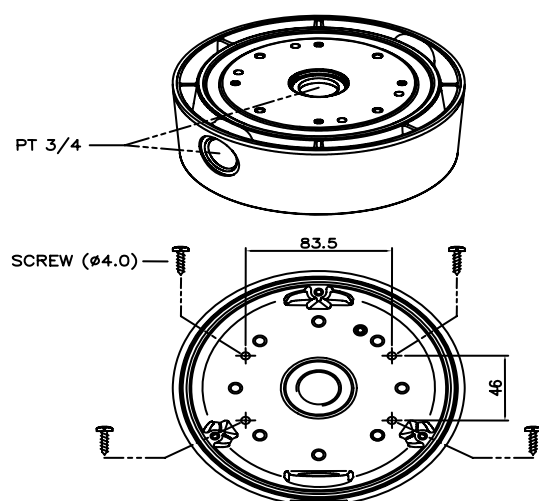

FIG.4
1. Attach the surface mount adaptor with 4 screws at the installation site. (FIG.4)